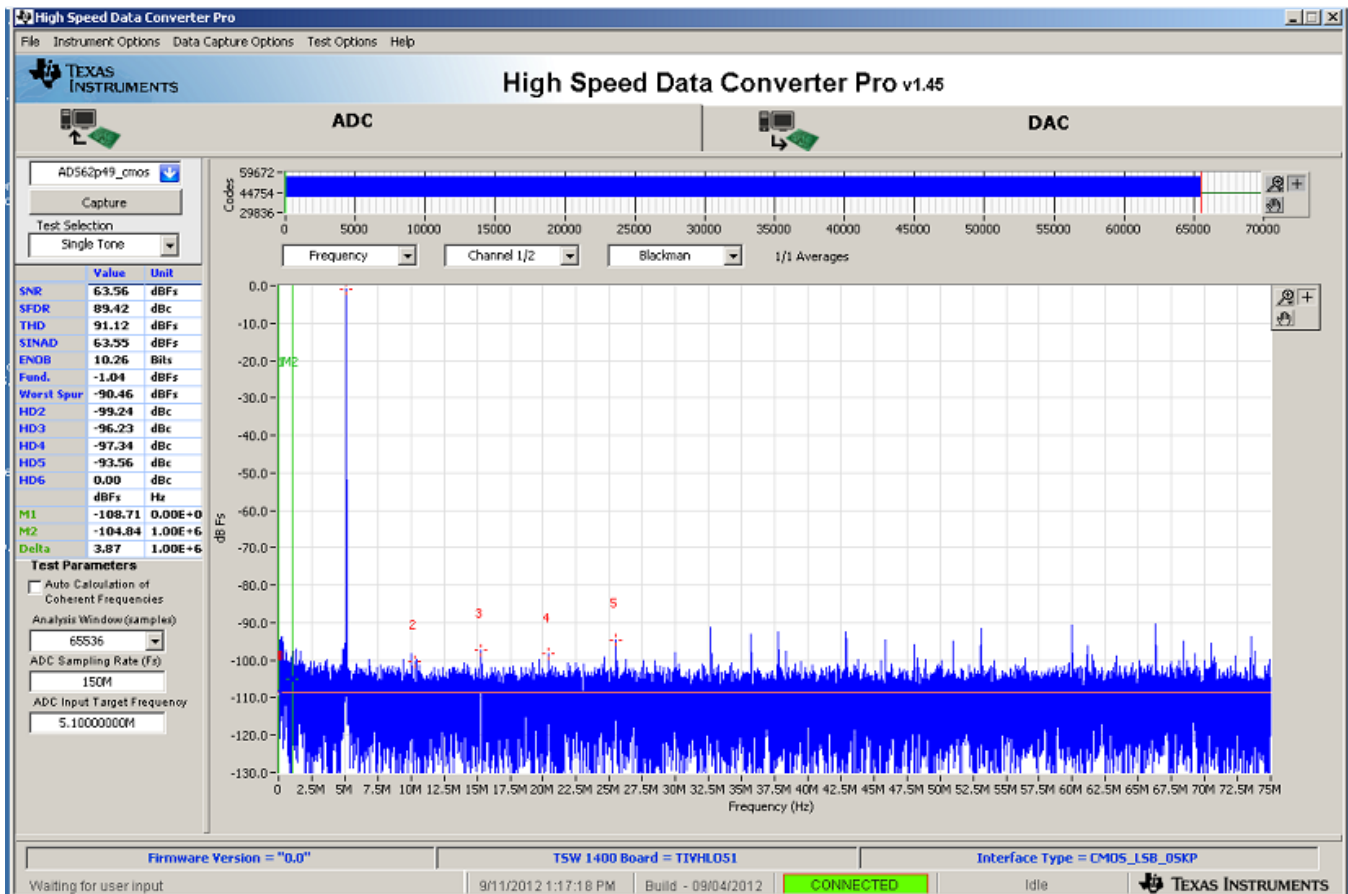

Figure 36. TSW1400EVM Captured Results from ADS62P49EVM
- Click on the “Capture” button to perform a data capture. The results should like similar to those shown in Figure 36